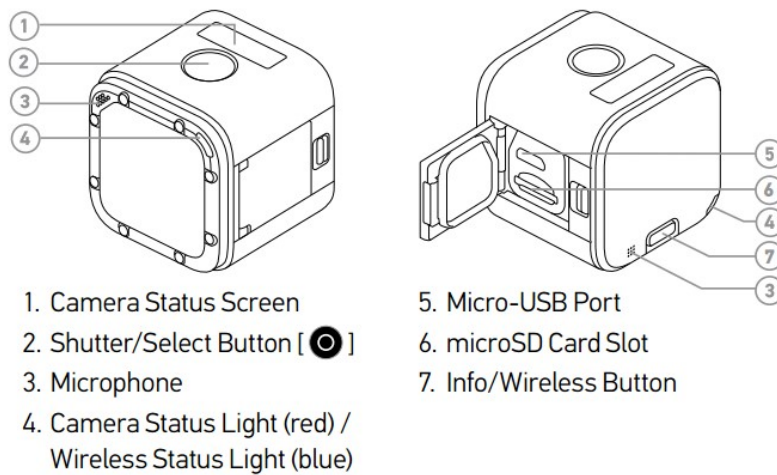

Figure 7: GoPro[©] HERO4 Session[™] Camera Parts
- Refer to Figures 7 and 8 for camera and tablet setup